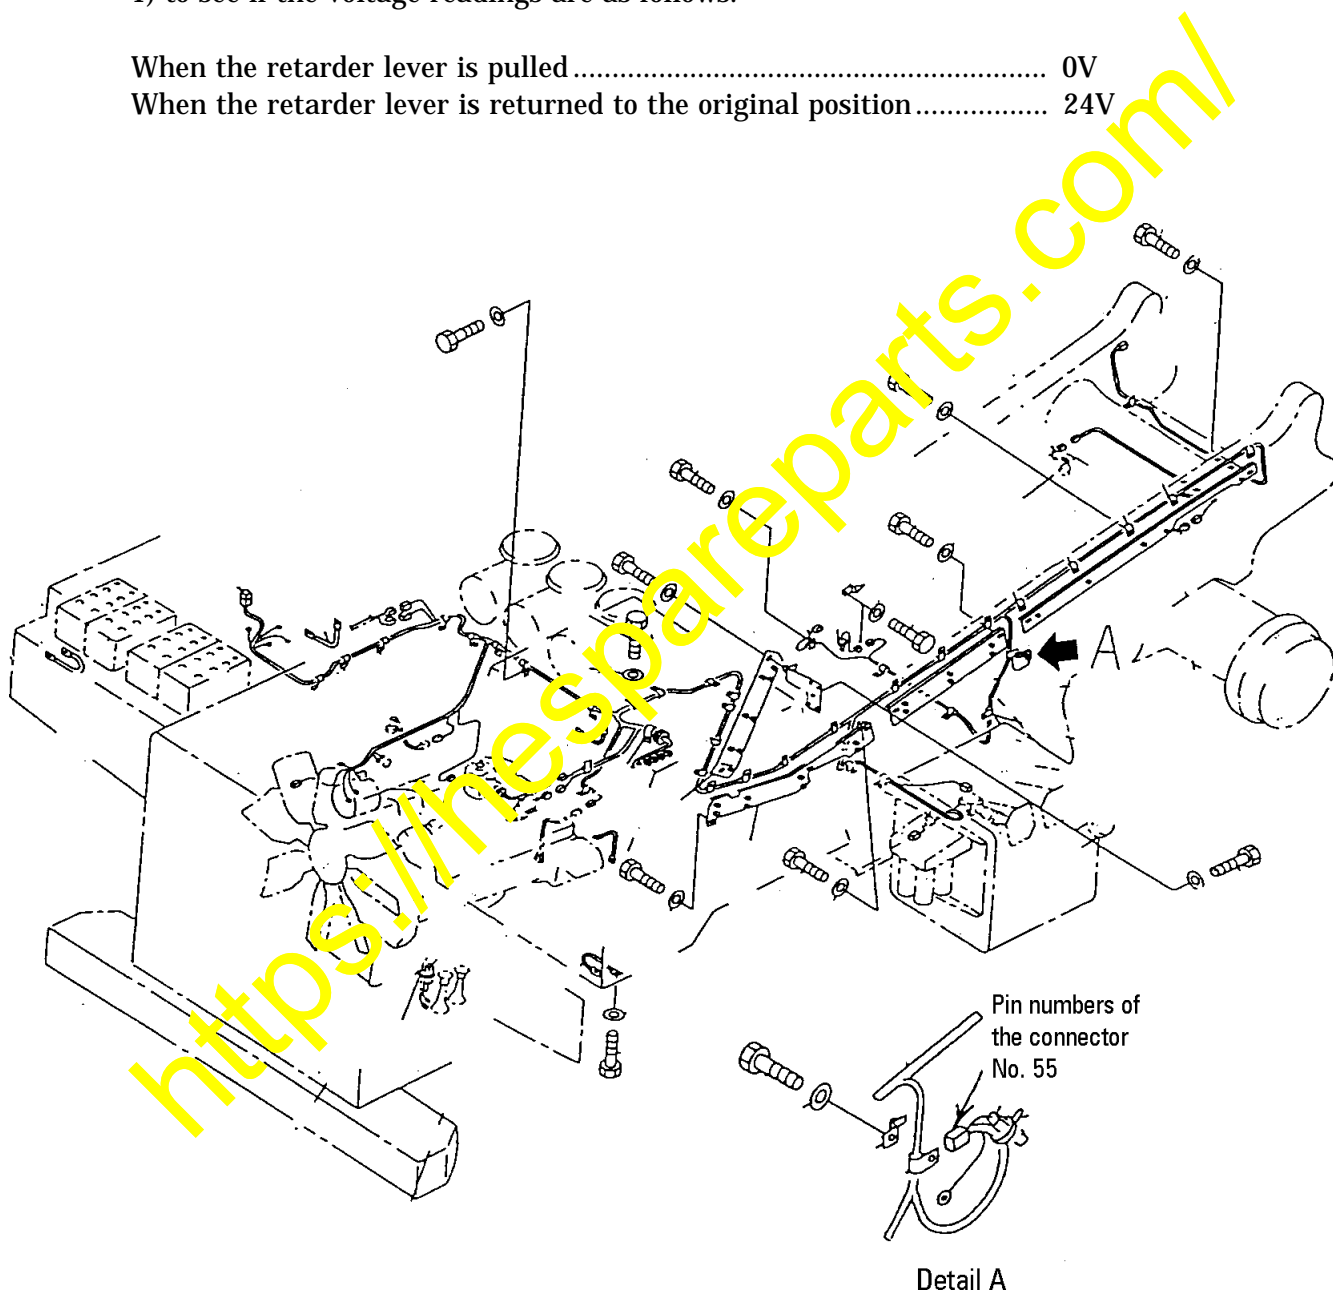

Fig. 4
- 1) Disconnect the connector (No. 55) of the BCV solenoid. (Refer to Fig. 4.)